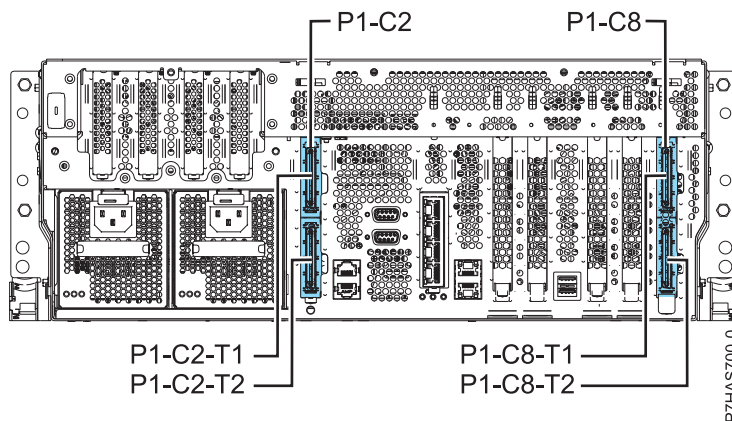

Figure 1. Rear view of the 02E/4B or 05F/6B showing GX++ adapter slots P1-C2 and P1-C8
- If the system has one processor chip module installed, the system supports only one GX adapter, which only can be installed in GX++ adapter slot 1 (P1-C2). If the optional PCI expansion unit is installed in the slot P1-C2, then the slot P1-C2 is unavailable for the GX adapter. See Figure 1 for the GX adapter slots and the location codes.